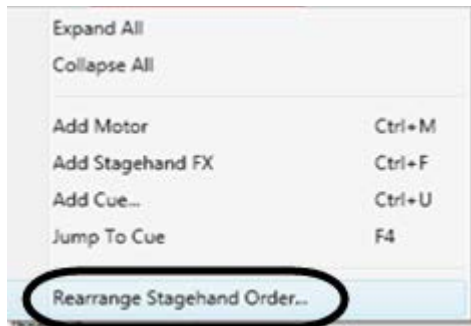

Figure 240
1. Right-click in a blank section of the **Cue Grid** and select **Rearrange Stagehand Order...** (Figure 240).